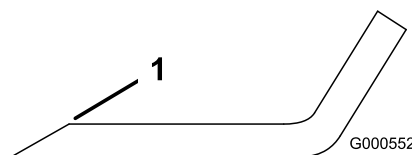

**Figure 48**
Hold the blade end using a rag or thickly-padded glove. Remove the blade bolt, curved washer, blade stiffener (42 inch models only), and blade from the spindle shaft (Figure 48).
1. Install the blade onto the spindle shaft (Figure 48).
2. Install the blade stiffener (42 inch models only), the curved washer (cupped side toward the blade) and the blade bolt (Figure 48).